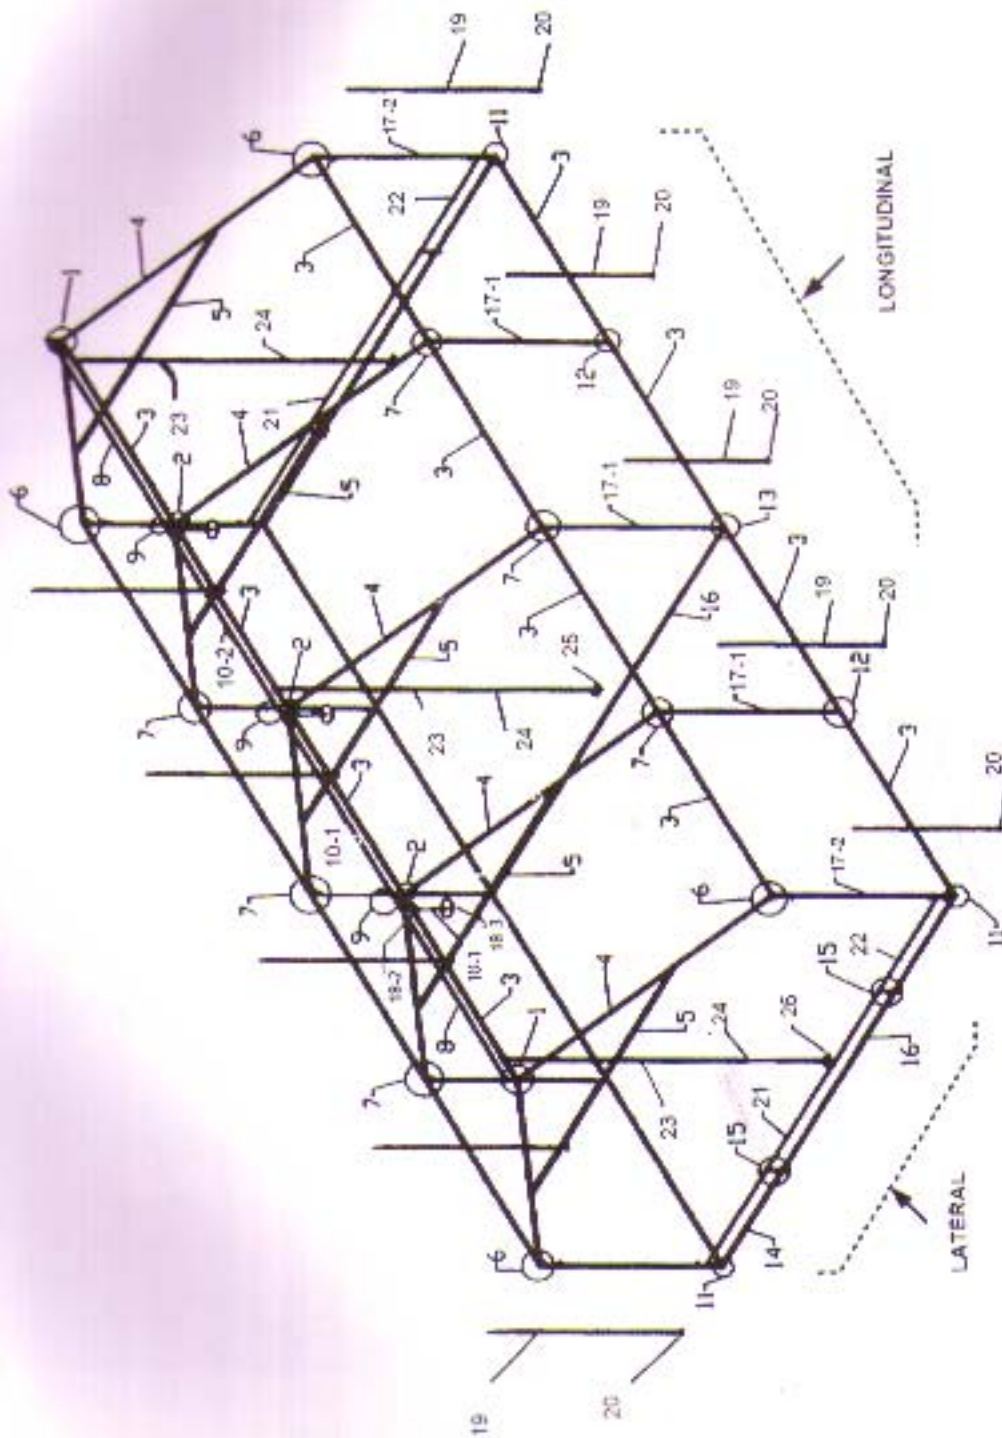

Figure 1: Framework Identification
All parts are labeled with a part number. To ensure proper installation, please refer to Parts List and Framework Structure Identification (Figure 1) to locate all parts before erecting the tent.
1. Floor frame consists of Part No. 3, 11, 12, 13, 14 and 16. Door flap consists of Part No. 15, 21 & 22. Please refer to Figure 1 and labels to locate these parts.
2. Roof Frame is an assembly of 5 sections. Each section is formed by connecting 2 pieces of Part No. 4 with Part No. 1 or 2 and Part No. 6 or 7, depending on their locations respectively. Please refer to Figure 1 to locate all these parts.